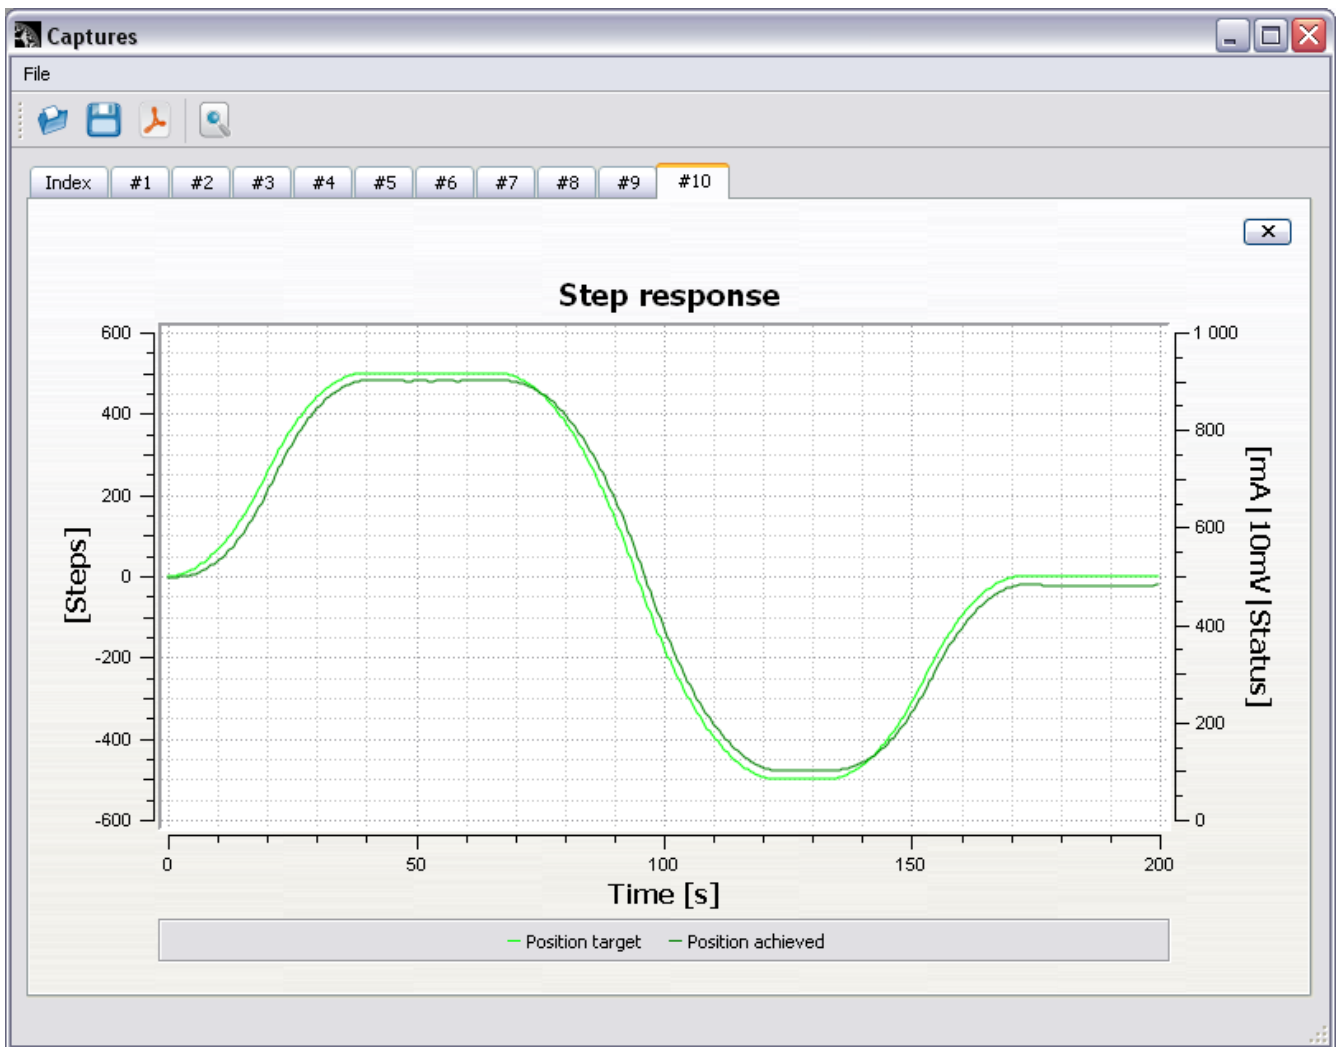

Figure 10: Too low position P-gain
- If you are getting significant position following error, like in Figure 10, increase **Position P** gain and return to step 9.